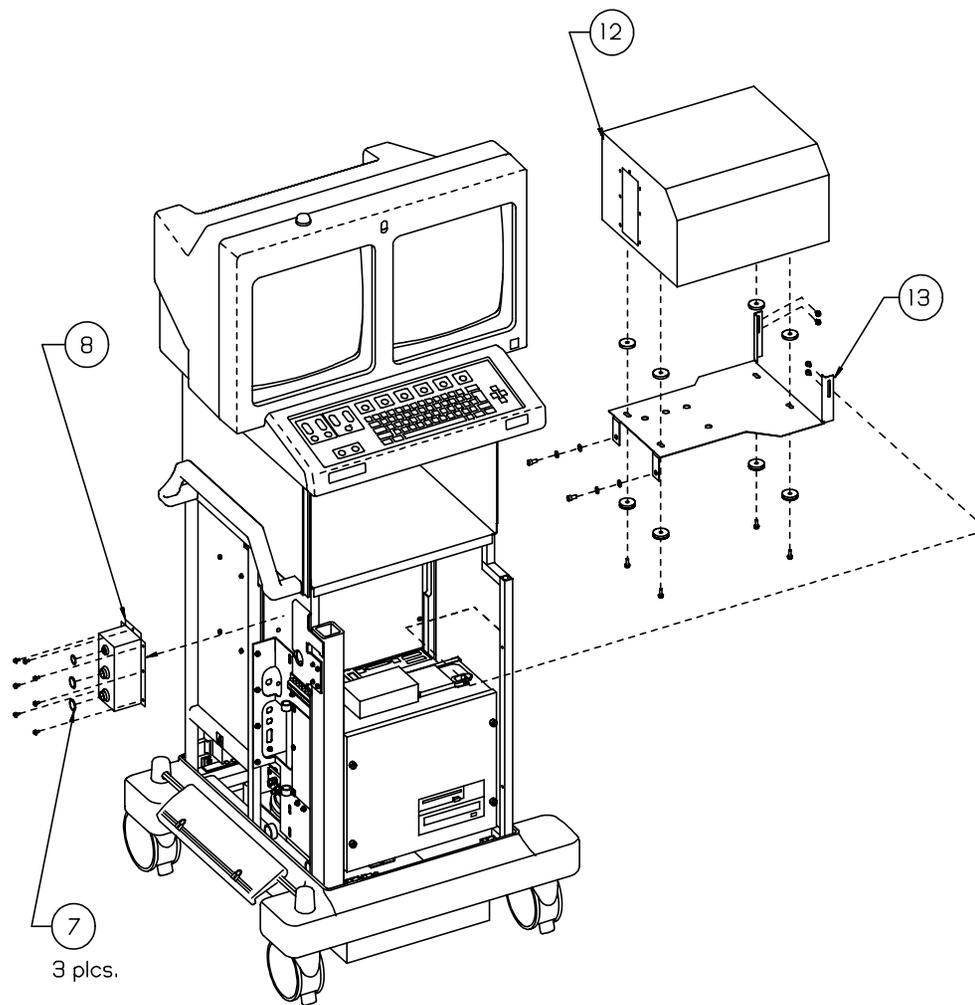

Figure 24
7. Unscrew and remove the 3 Retaining Rings which mount over the connectors on the Connector Box. See Figure 24 (next page).
8. Remove the screws that attach the Connector Box to the FluoroTrak Kit, then remove the Connector Box. See Figure 24 (next page).
12. Remove the screws (and the shock mounts) that attach the FluoroTrak Kit to its Mounting Bracket, then remove the FluoroTrak Kit from the Workstation. See Figure 24 (next page).
13. Remove the 4 torx screws and the 2 hex screws (with their washers) that attach the Mounting Bracket to the Workstation frame, then remove the Mounting Bracket. See Figure 24 (next page).